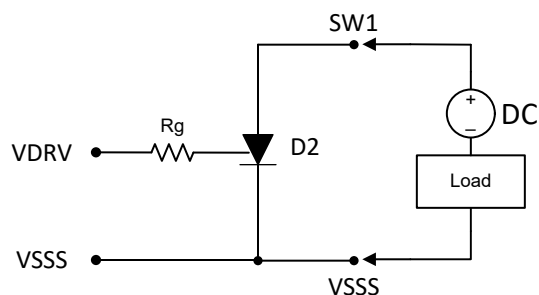

Figure 4-4. SCR for a DC Load
- a. Figure 4-4 shows a possible load configuration using an SCR. For this case, TI recommends to use the TPSI3050S-Q1, which allows for a one-shot operation to trigger enable with a pulse to drive an SCR. This action can be useful because a short duration of power can trigger most SCRs.